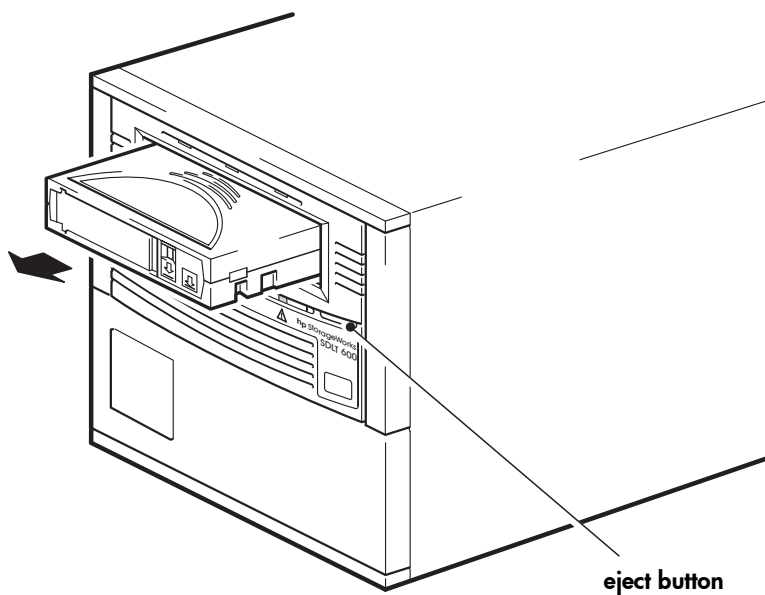

Figure 7b: unloading a cartridge
- 1 Press the Eject button on the front panel. (See Figure 7b.)